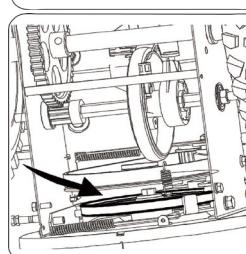

Figure 25
5. Remove the belt from around the auger pulley, and slip the belt between the support bracket and the auger pulley. Reassemble auger belt by following instructions in reverse order. See Figure 25.